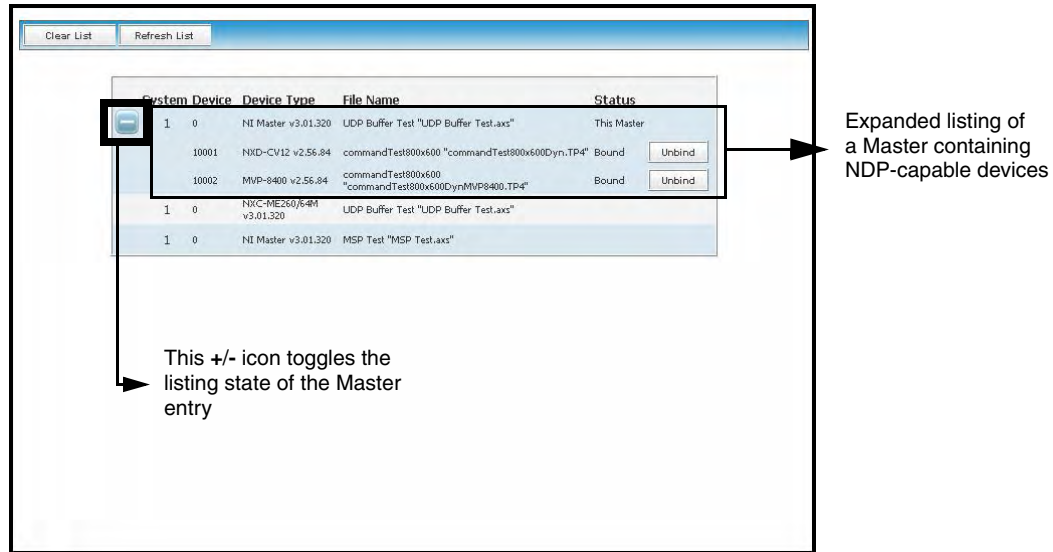

FIG. 75 Manage NetLinX Devices page - showing an expanded view
1. Click the "+" icon to expand the particular Master's listing and reveal those NDP-capable devices connected to it, as shown below in FIG. 75.